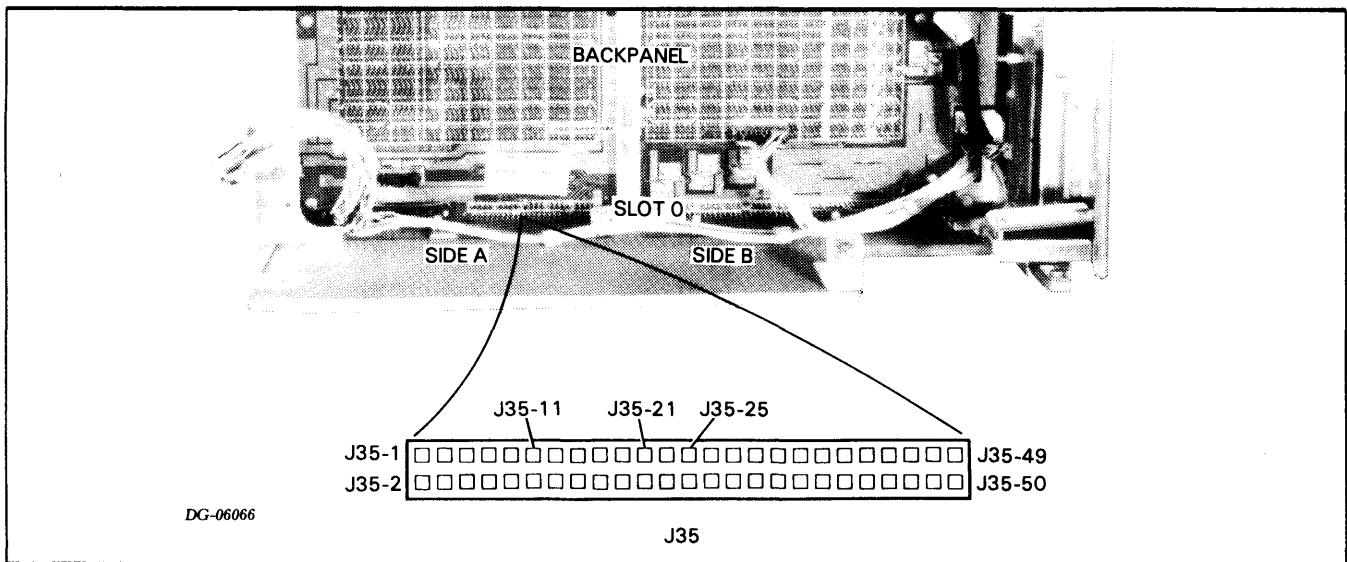

Figure 6.7 JACK J35
4. Short **MEMD** at J35-21 to **GND** at J35-1 (see Figure 6.7).
- Check the -11V voltage at J35-25 (see Figure 6.7).
- b. If the light is NOT on, check the $\overline{\text{ONLED-P}}$ voltage at J35-11 (see Figure 6.7).
2. Check the **+12 MEM** voltage at location J3-3 (see Figure 6.7).